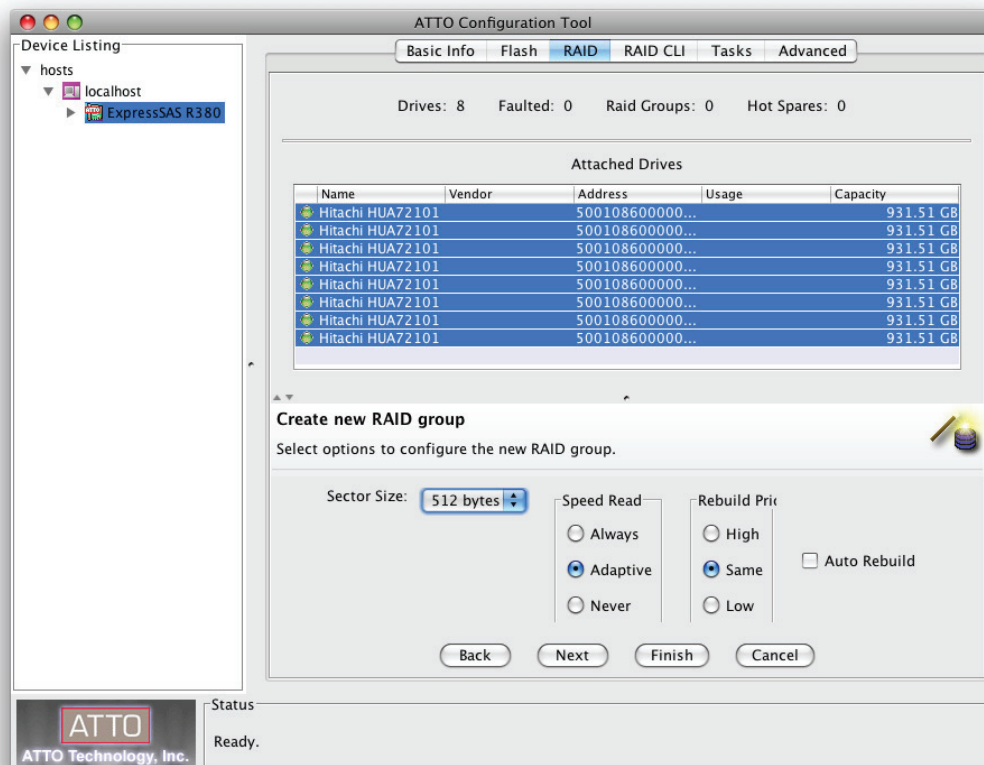

Figure 13
4. Click **Next**. Select the next set of options to configure the new RAID group. See **Figure 13** on page 14.